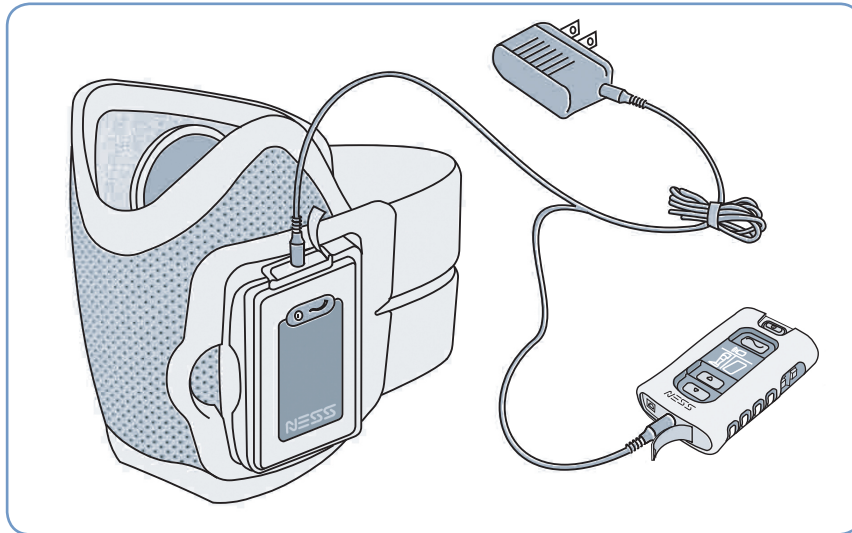

Figure 10: Connecting the Charger
2. Connect the charger cable to the Control Unit and to the RF Stim Unit as seen in Figure 10 and plug into the wall socket. A rotating circular  icon will appear on the Control Unit's display and the status light on the RF Stim Unit will start flashing alternating yellow/green  .